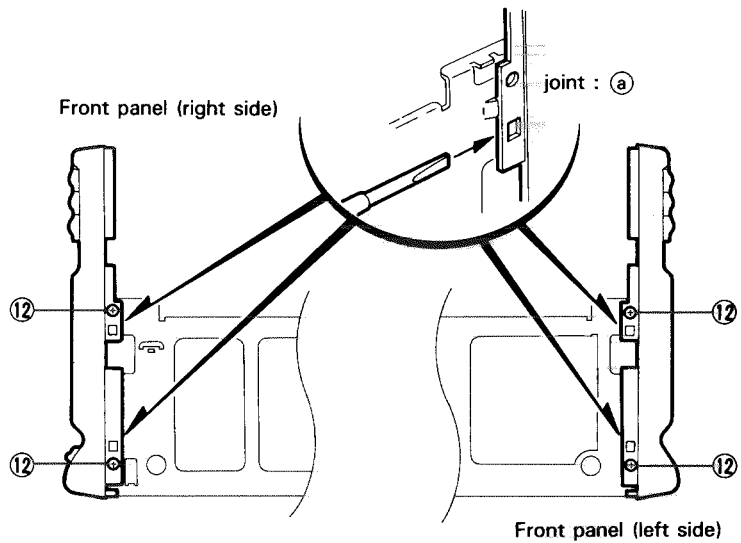

Fig. 7-13
Method of removing the front panel assembly (Refer to Figs. 7-13 ~ 7-14)
6. Remove the four conical screws (12) retaining both sides of the front panel assembly (Refer to Fig. 7-13).